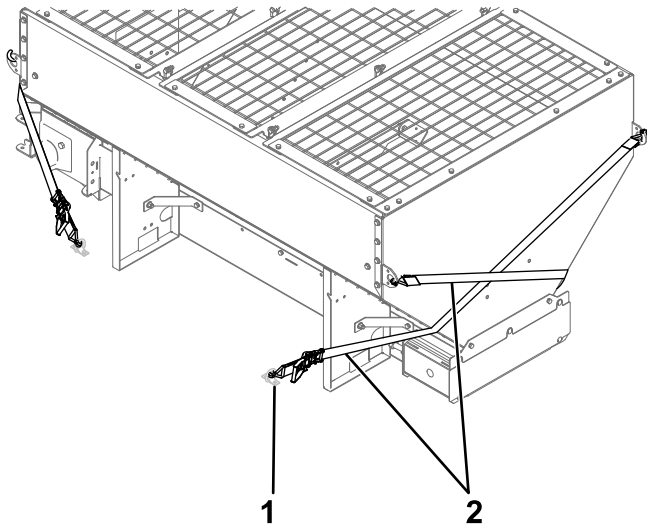

Figure 10
1. Connect the ratchet straps to the D-rings around the upper edge of the spreader (Figure 10).
2. Connect the free ends of the ratchet straps to the D-rings opposite to them on the truck bed (Figure 10).